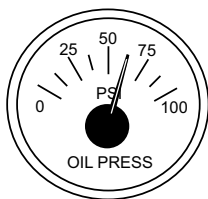

Figure 45. Oil Pressure Gauge
8. The engine oil pressure gauge (Figure 45) will indicate the oil pressure of the engine. Under normal operating conditions the oil pressure is approximately 35 to 65 psi. (193~586 kPa).